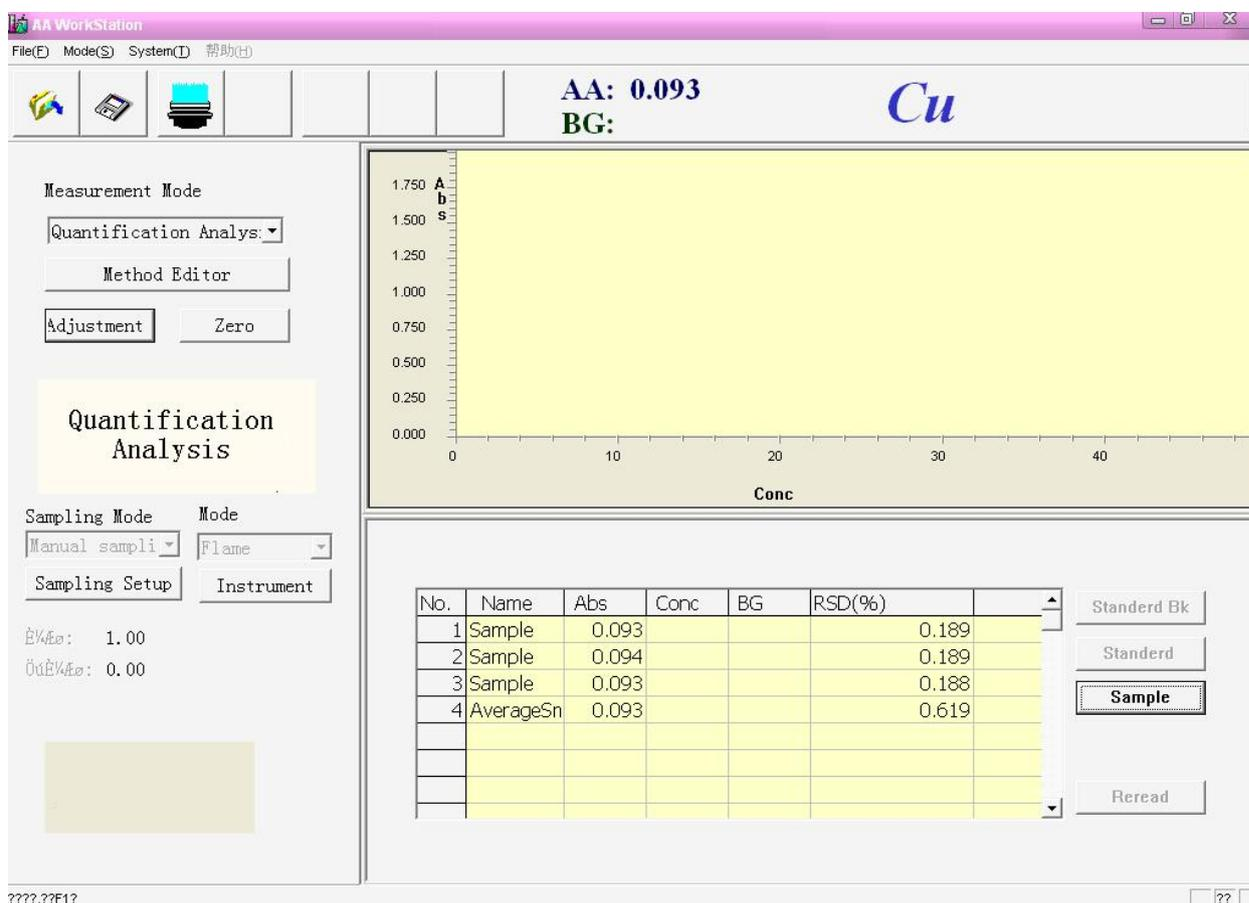

Figure 5-5
9. Press **【Zero】**, after the zero and real-time value becoming stable, press **【Sample】**, display figure 5-5